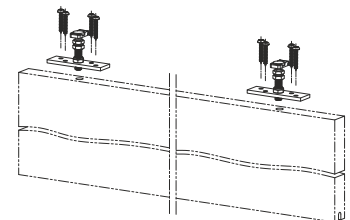

Fig. 2
3. Place the top plates on the shutter with the bottom of the bolt inserted into the hole and screw them as shown in the Fig.2.